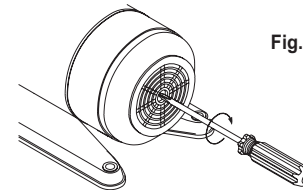

Fig. 3
- Before starting, the pump must be primed. Please follow the procedure as shown in Fig 3.
- If the pump sticks after periods of inactivity, a screw driver slot is provided on the motor shaft end to free up the pump/motor. To do so, insert a screw driver in the slot in the motor shaft as shown in Fig 3 and turn to free the rotor. If this does not remedy the problem, the unit will need dismantling.